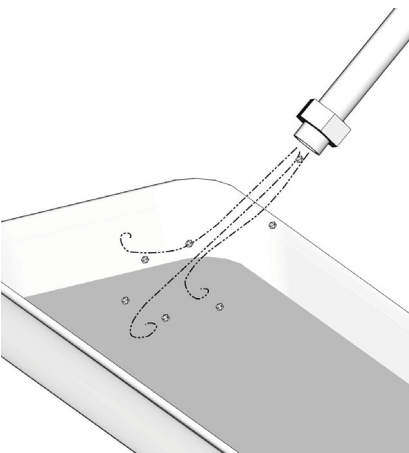

FIG. 7
- Blow out entire lubricant supply line with air (FIG. 7).